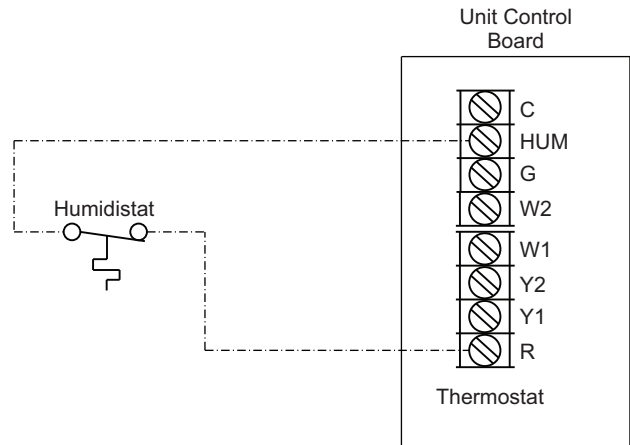

Fig. 36 — Humidistat Connections to UCB
The Perfect Humidity dehumidification system requires a field-supplied and field-installed space relative humidity control device. This device may be a separate humidistat control (contact closes on rise in space RH above control set point) or a combination thermostat-humidistat control device such as a programmable thermostat with isolated contact set for dehumidification control. See Fig. 36 and 37. The humidistat is normally used in applications where a temperature control is already provided.
3. Connect one of the leads from the 2-conductor cable to the HUM terminal on the UCB (Unit Control Board). Connect the other lead to the R terminal on the UCB. See Fig. 36.